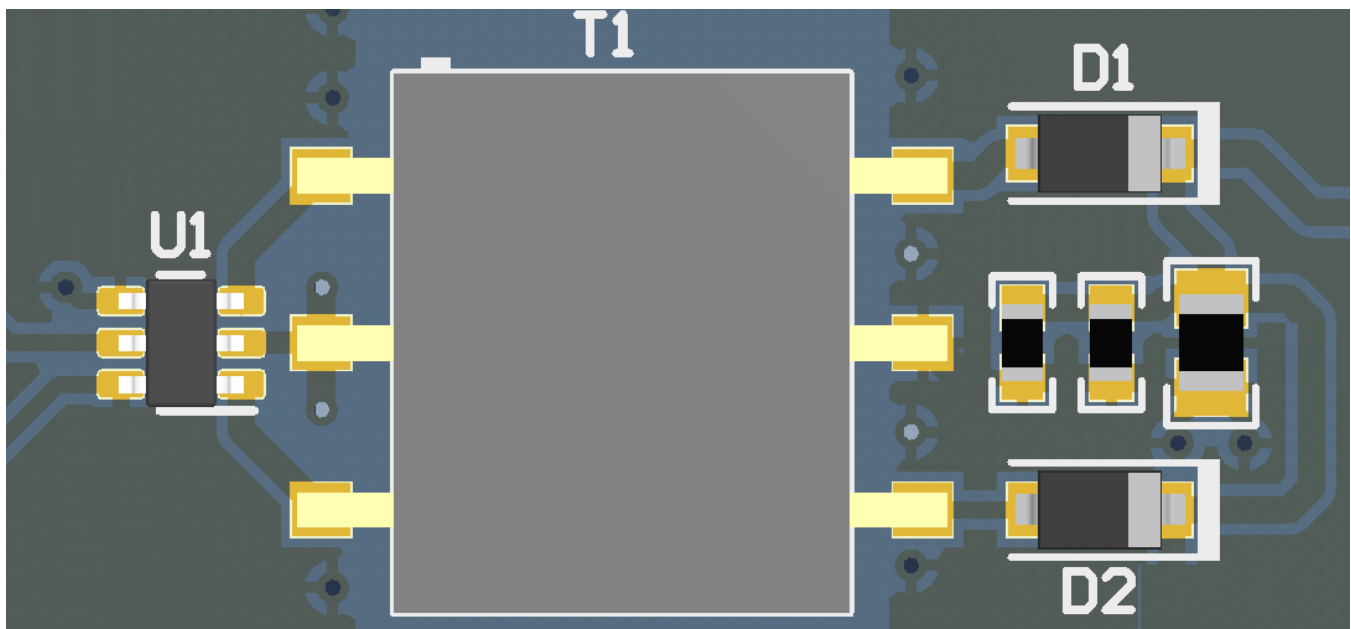

Figure 28. Layout Example of a 2-Layer Board (SN6505)
- The optimum placement is closest to the V_{IN} and GND pins at the board entrance to minimize the loop area formed by the bypass-capacitor connection, the V_{IN} terminal, and the GND pin. See Figure 28 for a PCB layout example.